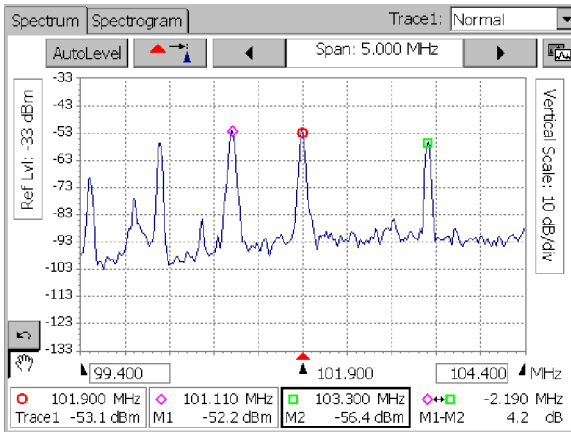

Figure 3-1: A typical Spectrum display with markers
There are several buttons located in the Spectrum area display. Figure 3-1 shows a typical spectrum display (with Interference option installed).
6. Tap the **Spectrum** button . See Figure 3-1 for a typical spectrum display.